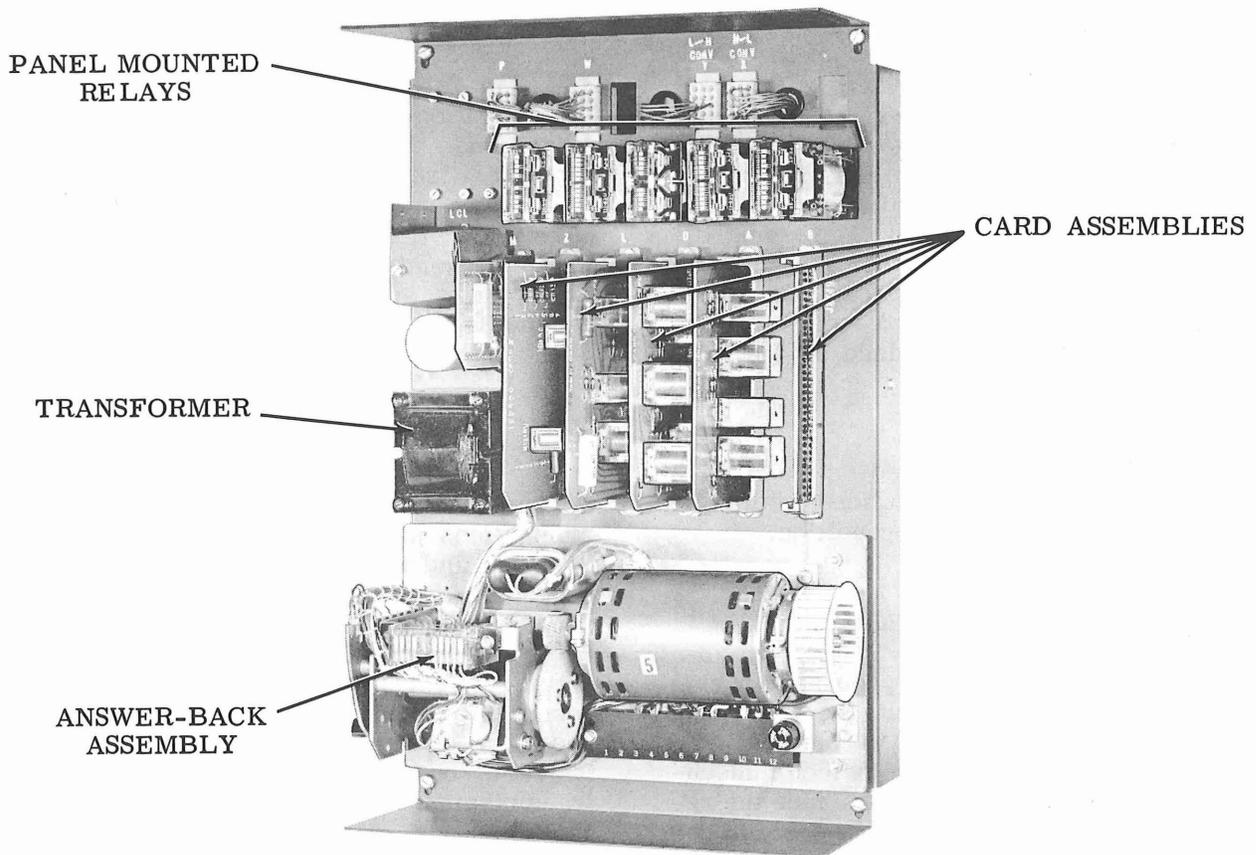

Figure 7 - Station Controller Assembly
2.15 The station controller assembly (Figure 7) is mounted on a relay rack within the pedestal of an 8B1 Teletypewriter Set. The answer-back assembly is mounted near the bottom of the panel. The relays attached to the card assemblies respond to stunt box and station operated contacts. The relays mounted at the top of the panel respond to station operated contacts. The station alarm buzzer (not visible) is mounted on the rear of the panel.